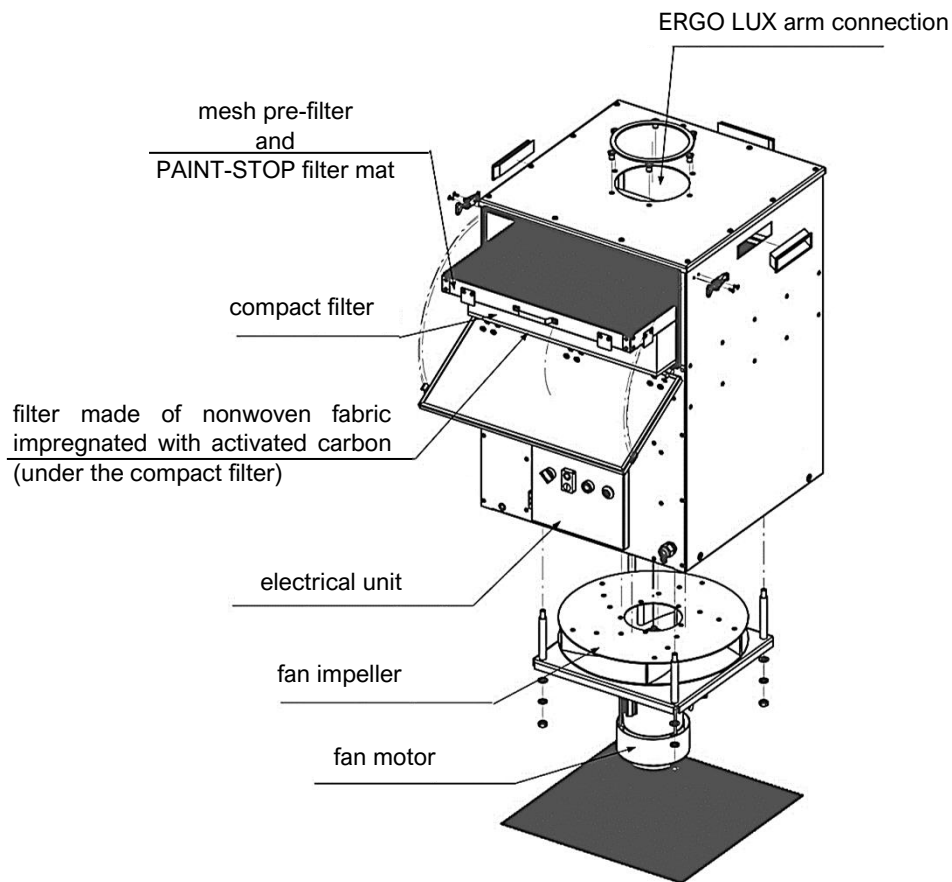
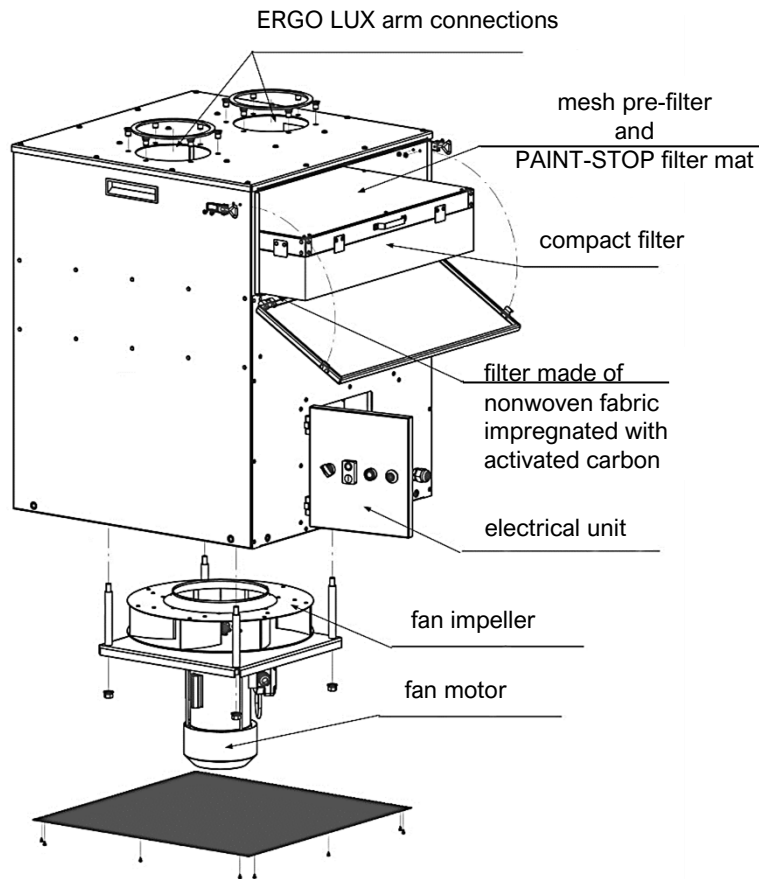

Figure 1 Construction of the RAK-1000 device
Figure 2 Construction of the RAK-2000 device
The construction of **RAK** devices is shown in the figures below – see Figure 1 and Figure 2.
- **RAK-1000** – adapted for mounting one extraction arm – see Figure 1,
- **RAK-2000** – adapted for mounting two extraction arms – see Figure 2.